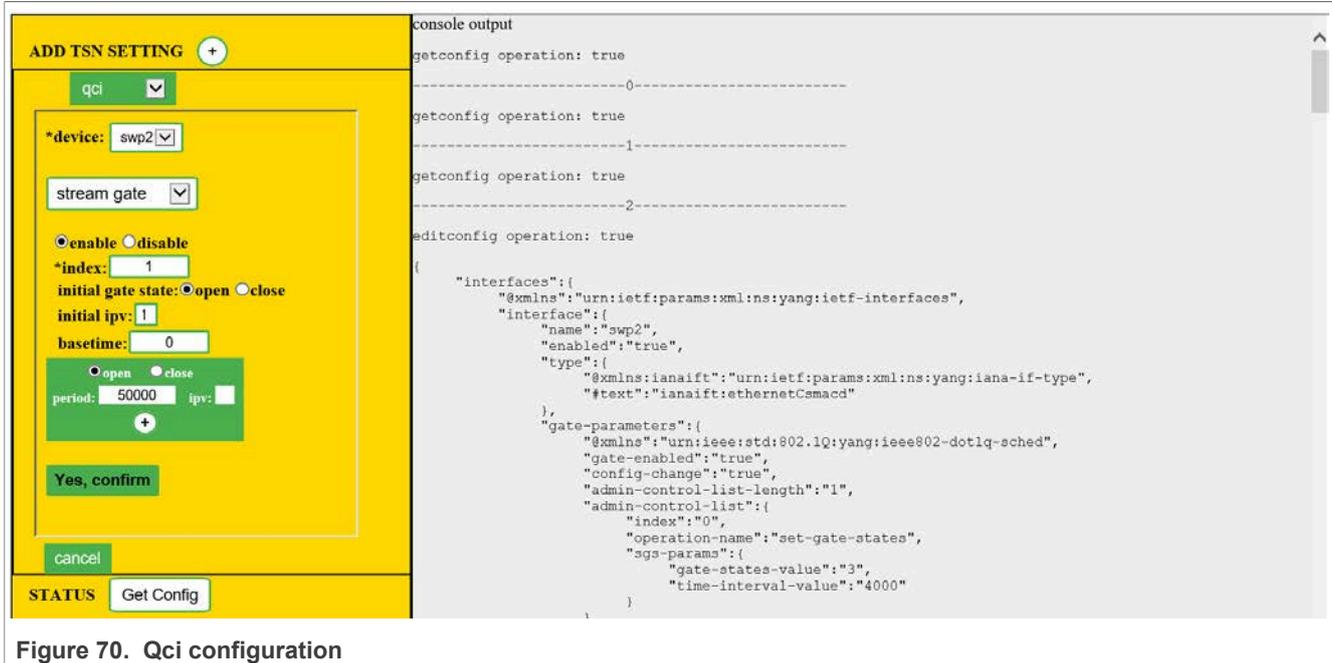

Figure 70. Qci configuration
- **Qci Configuration:** Selecting 'qci' option setting displays the options as shown in Figure 70.